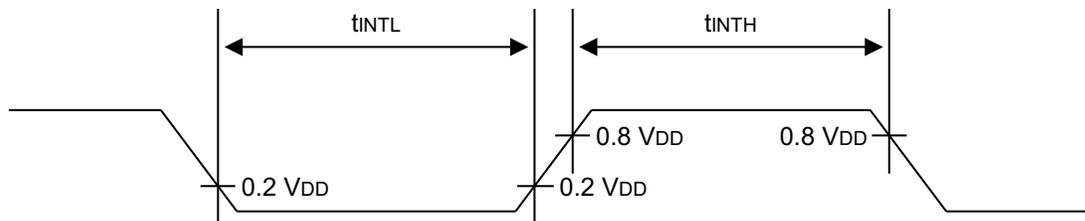

Figure 95. Input Timing for External Interrupts, Ports 0 and 2
- Input Timing for External Interrupts – see Figure 95 on page 297
► **Note:** In Figure 95, $t_{\text{CPU}} = 1$ CPU clock period.